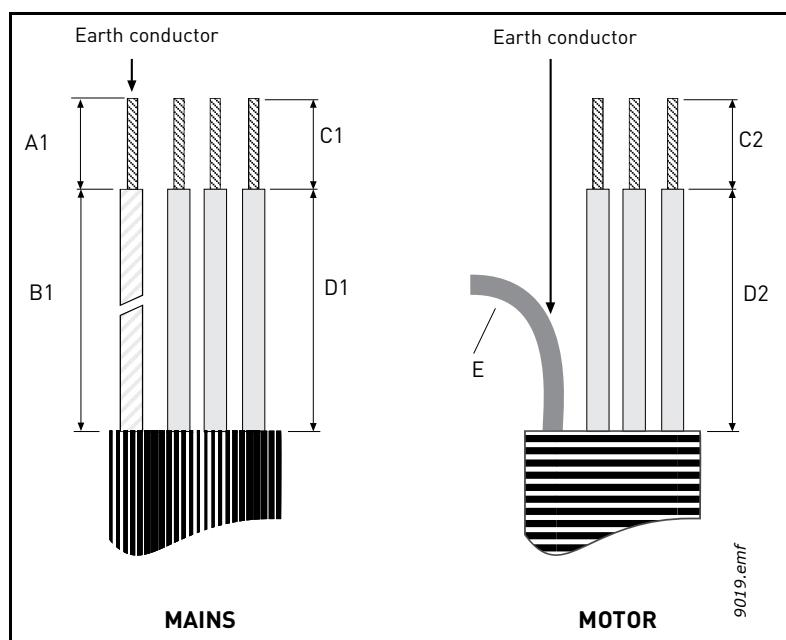
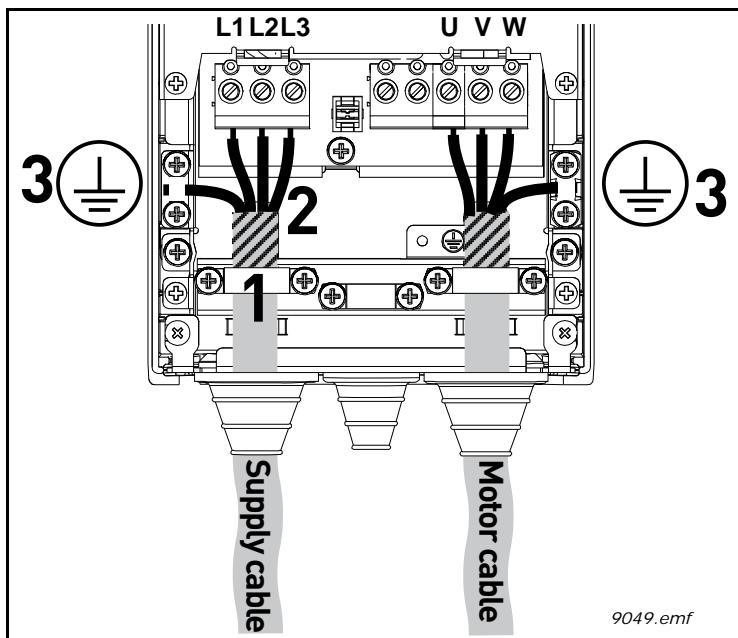

Figure 19. Stripping of cables
Figure 26.
7	<p>Connect the stripped cables (see Figure 19 and Table 26) as shown in Figure 26.</p> <ul style="list-style-type: none"> <li>Expose the shield of all three cables in order to make a 360-degree connection with the cable clamp (1).</li> <li>Connect the (phase) conductors of the supply and motor cables into their respective terminals (2).</li> <li>Form the rest of the cable shield of all three cables into “pigtails” and make a grounding connection with a clamp as shown in Figure 26 (3). Make the pigtails just long enough to reach and be fixed to the terminal – not longer.</li> </ul>